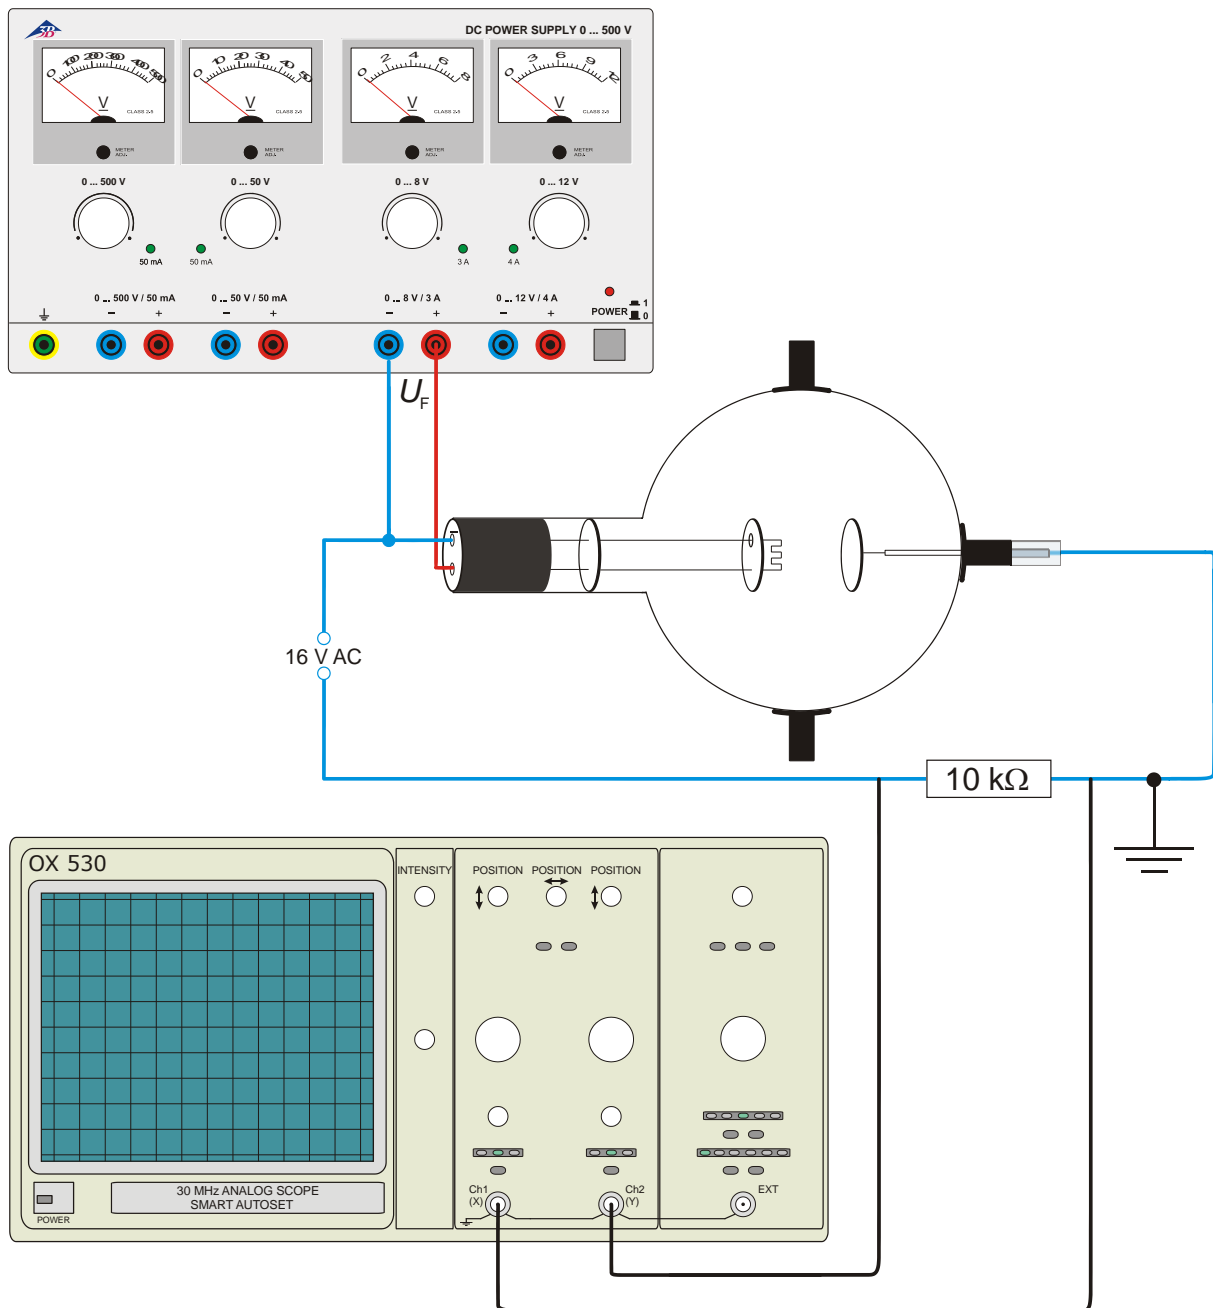

Fig. 3 Diode rectifier
- Set up the circuit as in Fig. 3 with  $U_F = 6.3$  V and  $U_A = 16$  V AC